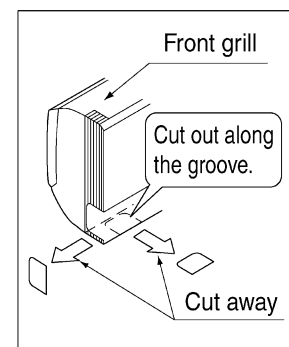

Fig. 4
- Check the location for the hole using the included paper pattern for installation (3).
- Temporarily attach the installation panel (1) at the temporary-securing position on the paper pattern for installation (3) and use a level to make sure the drain hose is either level or tilted slightly downward.
- Secure the installation panel (1) to the wall using either screws or bolts.
- If using the attachment screws for the installation panel (2), attach using at least 4 screws on either side (for a total of 8 screws (20-32 type), 9 screws (40-63 type)) of the recommended installation cleat position on the included paper pattern for installation (3).
(3) If using the left, bottom-left, right, or bottom-right positions for the piping, cut out the through-hole for the piping in the front grill. (Refer to Fig. 4)